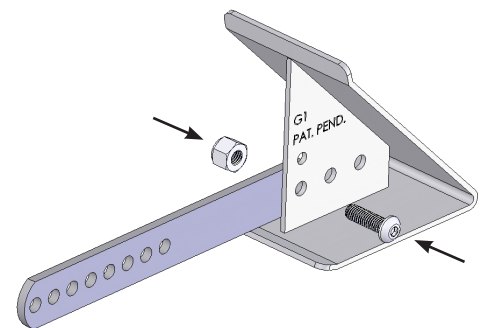

Figure 2
2) Using the same nut and bolt, install the extra single arm onto that same wedge. The bolt should go through the end of the arm with the single hole. See Figure 2.